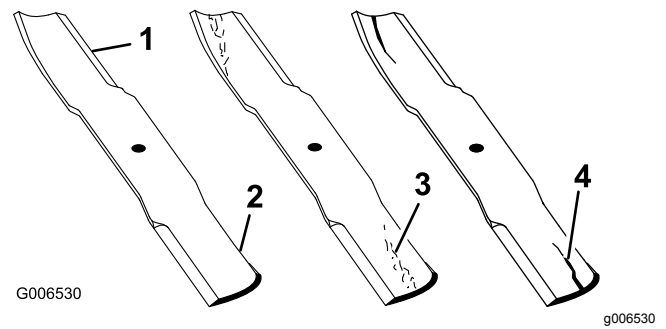

Figure 109
1. Inspect the cutting edges (Figure 109).
4. If you notice any cracks, wear, or a slot forming in this area, immediately install a new blade (Figure 109).